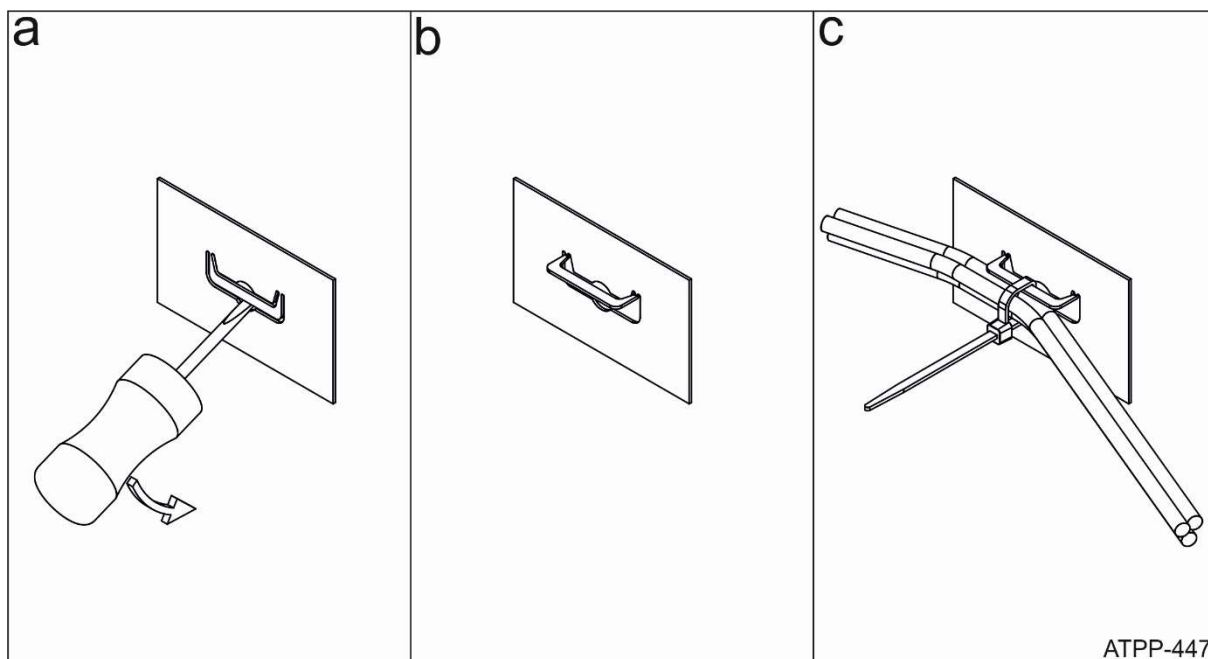

Fig. 3 Cable fixing method
9. In order to arrange the cables inside the enclosure, they should be placed with cable ties to the G detail. In order to use the G details, they must be levered first (ex. with a screwdriver) and bend to the vertical position, then use a cable tie to fasten the bundle of cables (Fig. 3).